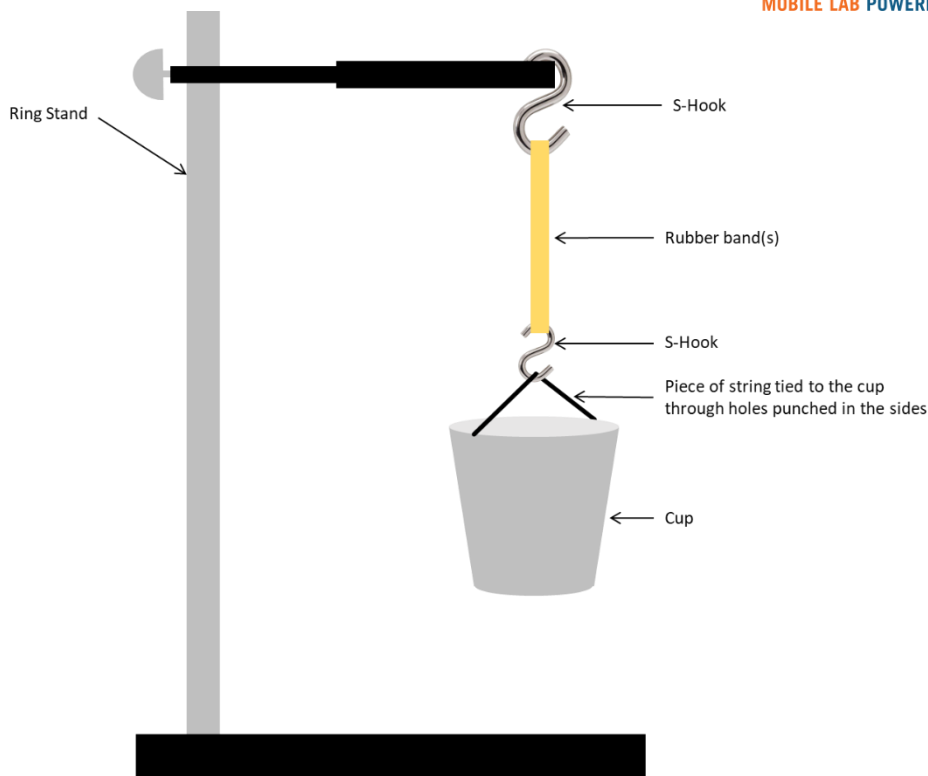

Figure 1. Scale set-up
1. Assemble your scale set up as shown in Figure 1.